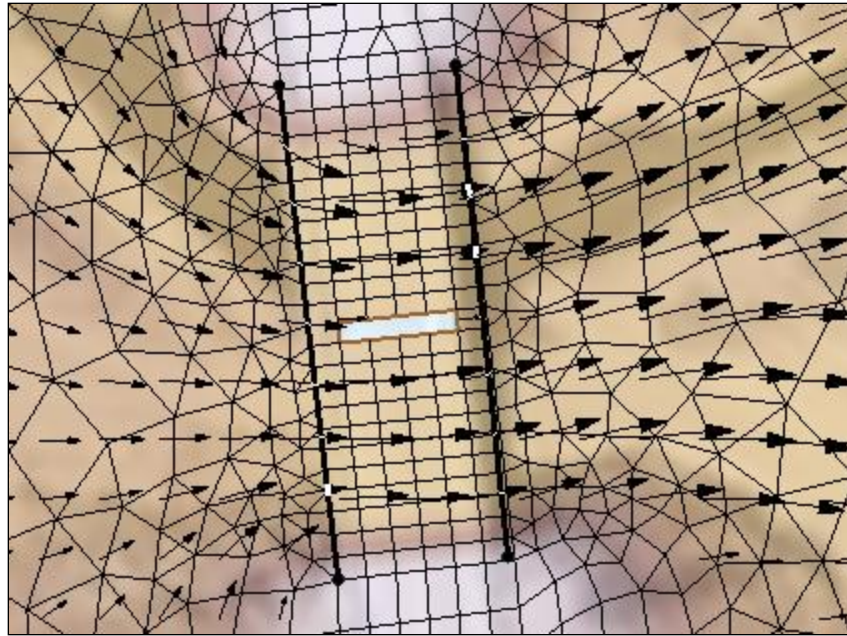

Figure 3 Pressure flow arc locations
8. Use the **Create Feature Arc** tool to create one arc on each side of the bridge to define the upstream and downstream faces of the bridge deck. The arcs should be created from right to left or bottom to top. The arcs should look similar to Figure 3.